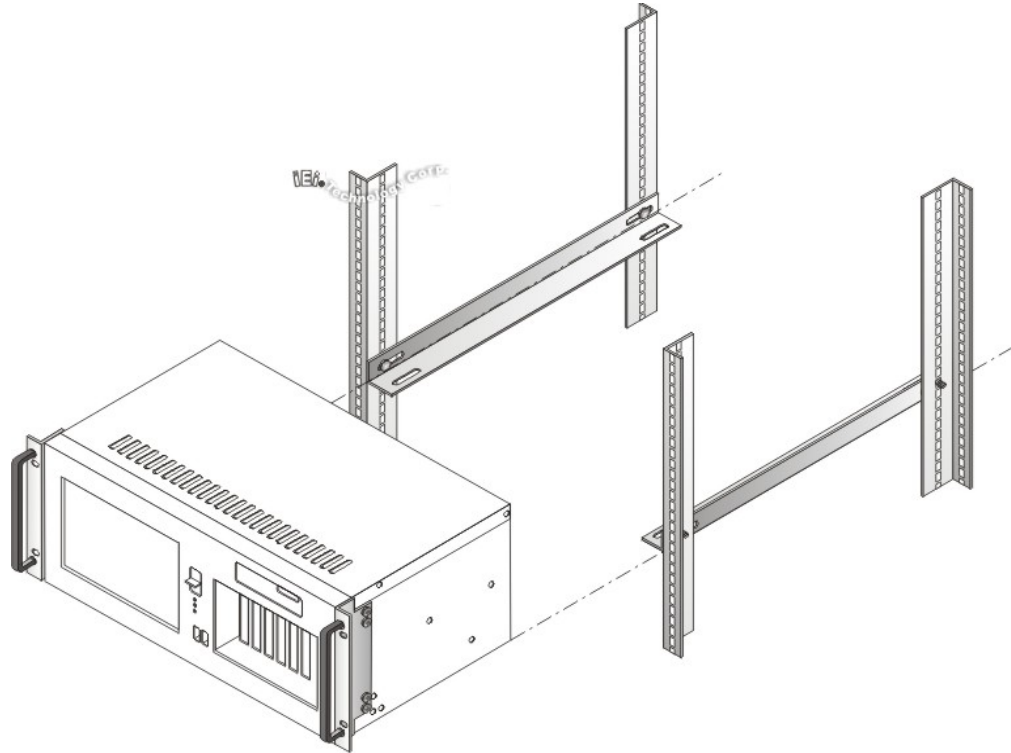

Figure 4-14: Install Workstation into Rack
Step 3: Insert the workstation into the rack slide brackets until the handle brackets are flush against the rack. (See **Figure 4-14**)